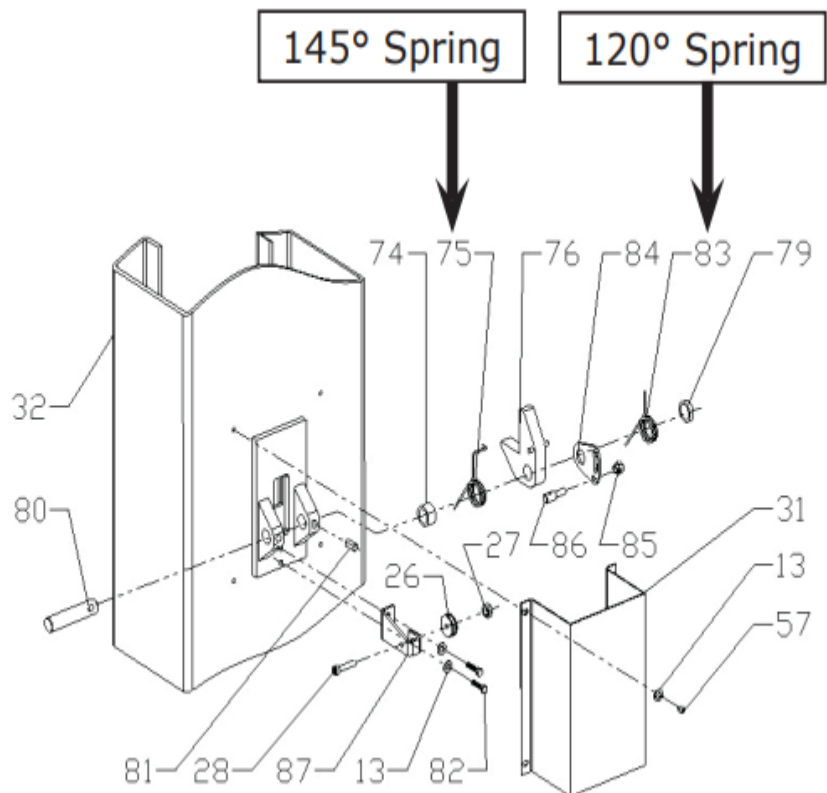

Fig. 25 Offside safety device
J. Install safety device (See Fig. 24 & Fig. 25).